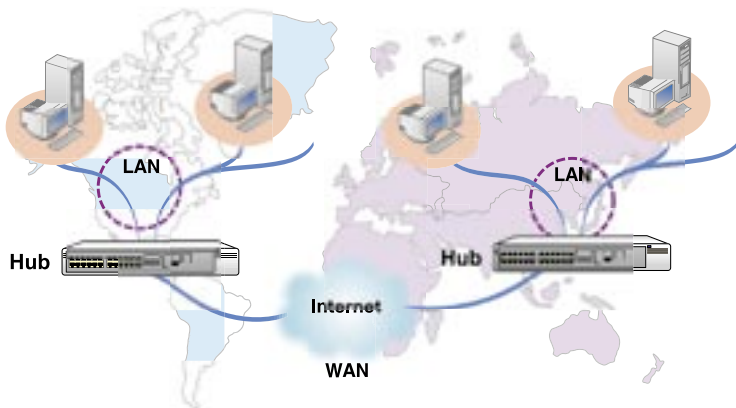

Figure 6.
**WAN stands for Wide Area Network** ; a WAN network is the type of network that spans a relatively large geographical area. Typically, a WAN consists of two or more local-area networks (LANs). The largest WAN in existence is the Internet. Figure 6 is a scaled down example of how a typical WAN operates.
As you can clearly see in Figure 6 we have two LAN's one in the United States and one in South Korea. Both LAN's can be connected by the internet making the "internet" a WAN.